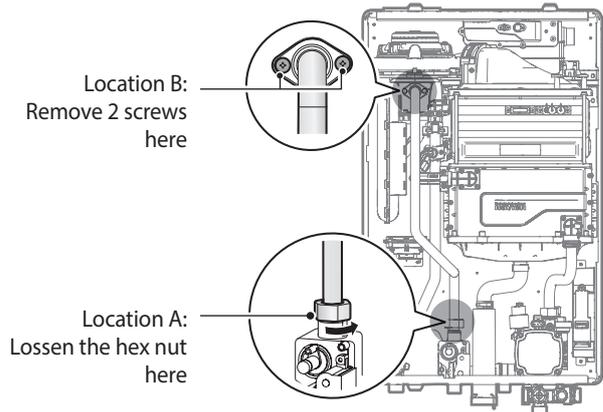
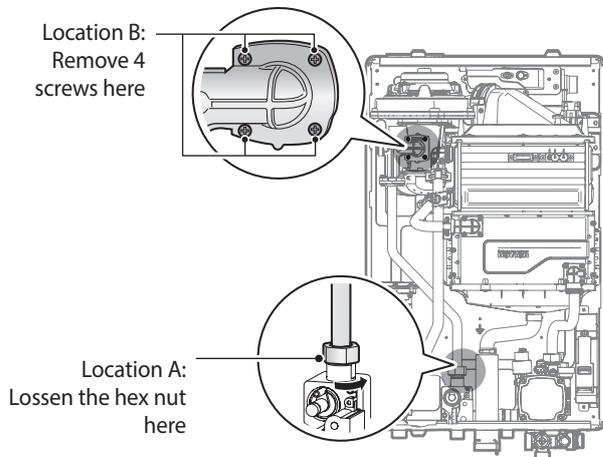

Figure 3-1. Detaching Gas Inlet Pipe from Gas Valve and Fan Motor Assembly (NCB-24/28/34LDWE, NCB-20/24/28LHWE)
Figure 3-2. Detaching Gas Inlet Pipe from Gas Valve and Fan Motor Assembly (NCB-40LDWE, NCB-33LHWE)
- Loosen the hex nut at location A - the connection above the gas valve where it connects to the pipe (refer to Figure 3-1 and Figure 3-2). When the hex nut is loosened, carefully separate the pipe from the gas valve.